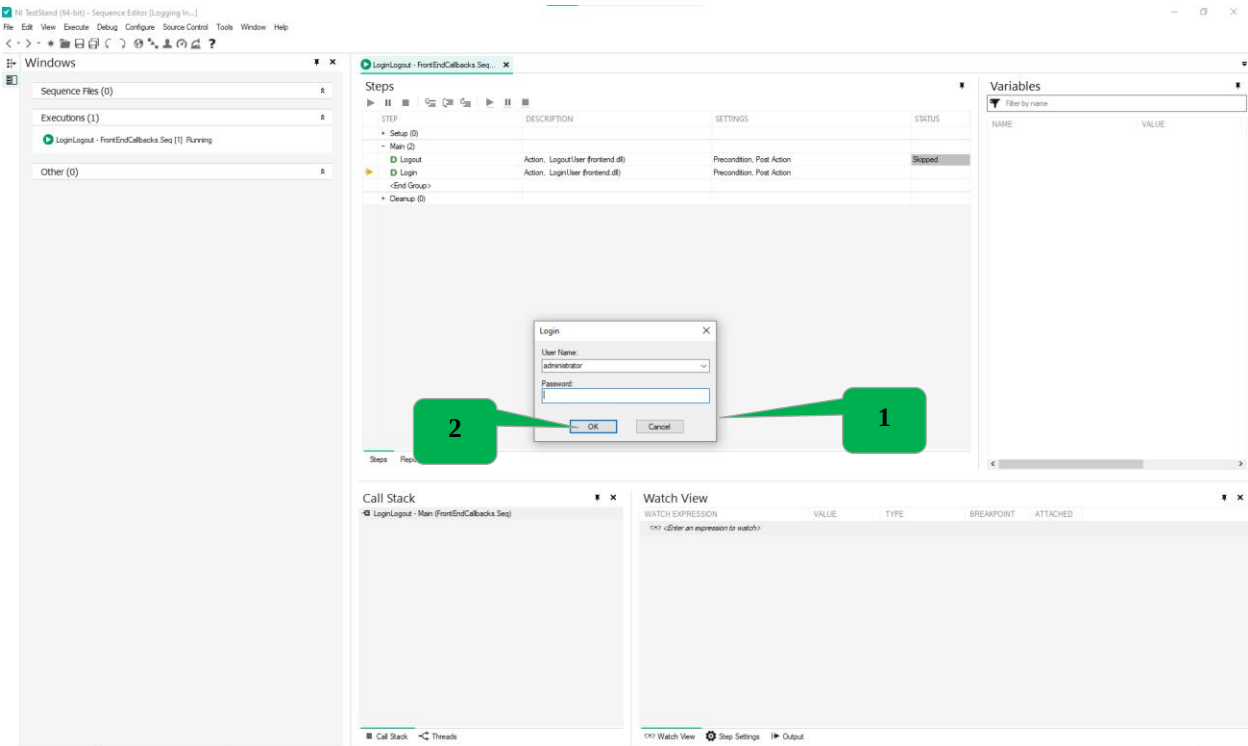

Figure 88: Login the Test stand
- 1) The login screen is shown in **Figure 88** below.